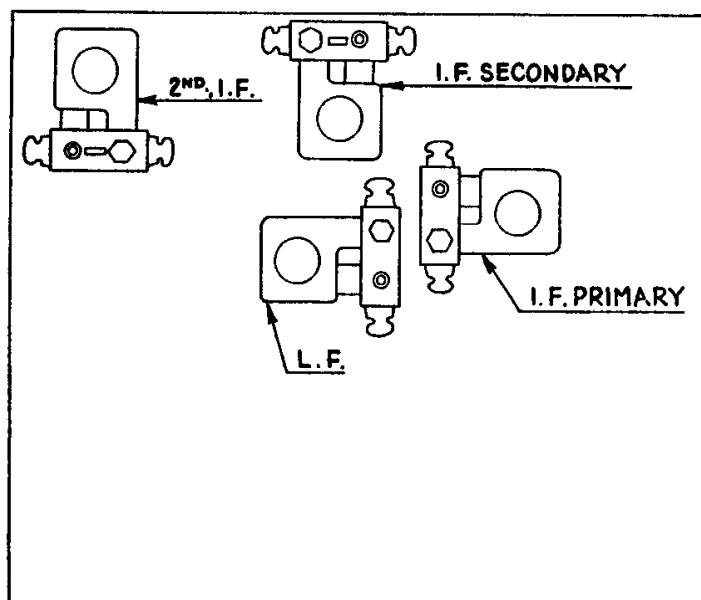

Fig. 41. Model 7. — I.F. 175 K.C.
Using a Philco fibre wrench, adjust the second I. F. condenser. This is the one in the upper left-hand corner of Fig. 41.
Next adjust the secondary and primary I. F. condensers. These are the two shown at the right on Figs. 41 and 42.
**Low Frequency Condenser**—Set the signal generator to 700 K.C. Now tune the Receiver sharply. Adjust the L. F. condenser shown near the center of Figs. 41 and 42. During this operation the tuning condenser must be shifted and the compensators must be adjusted to bring in the maximum signal.